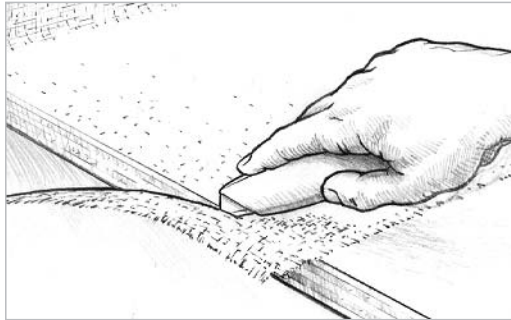

Figure 9-19 Trim excess cloth after the epoxy has begun to gel using a sharp utility knife.
8. Trim the excess and overlapped cloth after the epoxy has begun to gel, using a *sharp utility knife* (*Figure 9-19*). Trim overlapped cloth, if desired, as follows: